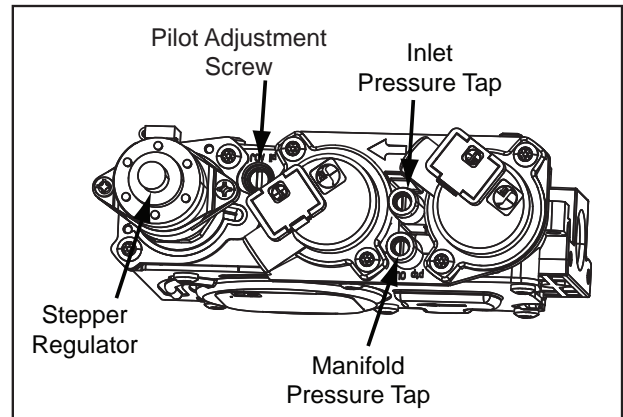

Figure 24: Gas Valve Diagram
- a) Remove the existing stepper motor using a T20 screwdriver (see Figure 24).
10. Light the pilot and recheck for leaks in the aluminum pilot line. If a leak is evident, contact your ENVIRO dealer for a pilot line replacement. **WARNING: DO NOT ATTEMPT TO FIX THIS LINE, IT MUST BE REPLACED IF DAMAGED.** The pilot should properly cover the flame sensor. If adjustment is necessary, turn the adjustment screw in the valve (see Figure 24) clockwise to decrease and counter-clockwise to increase until the correct flame is achieved (see Figure 14).